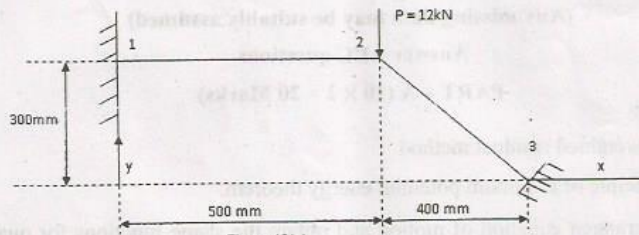

Figure 12(a)
12. (a) Determine the nodal displacement, element stresses and support reactions in the truss element shown in figure 12 (a). Assume that points 1 and 3 are fixed. Take  $E = 70 \text{ GPa}$ , and  $A = 200 \text{ mm}^2$